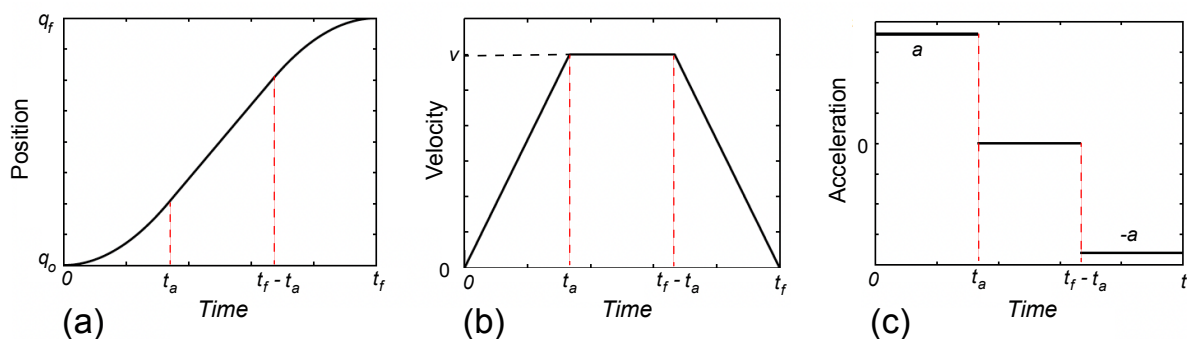

Figure 1: Trajectory generation for constant velocity profile.
1. **Trajectory with velocity constraint:** Consider a scenario where the following are specified: initial position is q_0 at time $t = 0$, the final position is q_f at time $t = t_f$, and the maximum speed V . We want a velocity profile shown in Fig. 1 (b): a ramp up from 0 to t_a , a constant speed of V from t_a to $t_f - t_a$, and a ramp down from $t_f - t_a$ to t_f . Compute
- (a) Compute $q(t)$ from 0 to t_f (Fig. 1 (a)).
(ii) You may use t_a and a (=acceleration, see Fig. 1 (c)) to help you do the calculations, but you need to compute them as functions of known quantities (q_0 , q_f , t_f , and V)